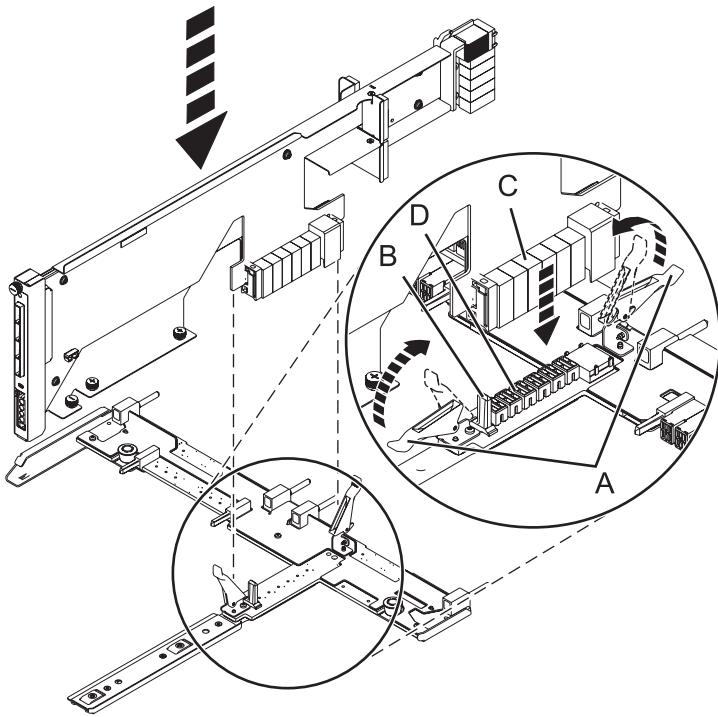

Figure 55. Installing the SAS conduit card into the midplane
- a. Place the card connector (C) on the midplane connection (D) using the guide track (B) to ensure a good connection.
- b. Lift the handle (A) to seat and secure the SAS conduit card to the midplane as shown in Figure 55 on page 74.